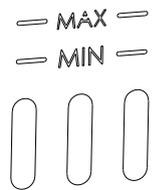

Figure 8
**Cold Medium** - when filling with cold medium (see Figure 8), DO NOT FILL MEDIUM PAST -MIN- LEVEL MARK (Maximum cold fill mark) also, for Solid Medium - See Section 9. **-MIN- Level Mark:** Medium should NEVER be allowed to drop below this mark. Should this occur, top up immediately or switch fryer OFF.
**Hot Medium and Topping Up Medium** DO NOT FILL MEDIUM PAST -MAX- LEVEL MARK (Maximum Hot Fill Mark). (See Figure 8).